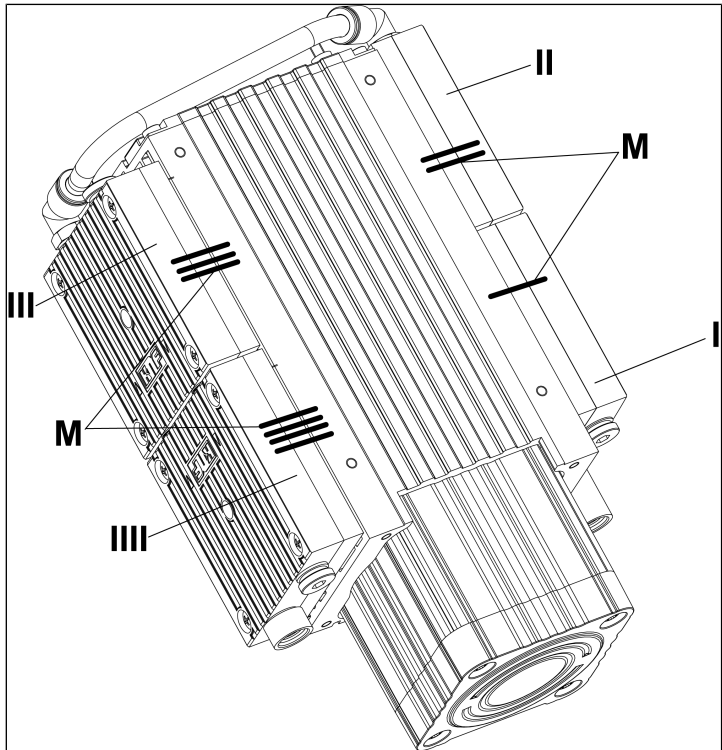
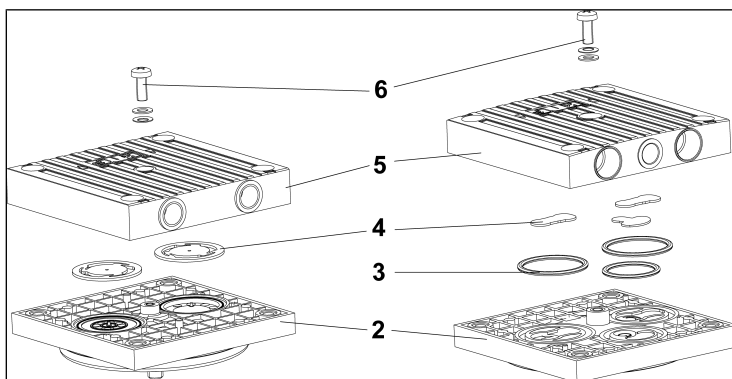

Fig. 6: Marking of the pump
Fig. 9: Exploded view of the pump head
3. Head 1 (I/ Fig. 6):
4. Head 2 (II/ Fig. 6):
5. Head 3 (III/ Fig. 6):
6. Head 4 (IIII/ Fig. 6):
9. On both heads, loosen the head screw (6/ Fig. 9) in the head plate (5/ Fig. 9).
10. Remove the head plate from the intermediate plate (2/ Fig. 9).
1. Remove the valves (4/ Fig. 9) from the intermediate plates (2/ Fig. 9).
Remove the O-rings (3/Fig. 9).
3. Insert the new valves (4/Fig. 9) in the intermediate plates (2/Fig. 9).
Insert the new O-rings (3/Fig. 9) in the intermediate plates (2/Fig. 9).
5. Place the head plates (5/Fig. 9) on the intermediate plates (2/Fig. 9) according to the felt tip pen markings (M/Fig. 6).
6. On both heads, tighten the head screw of the head plate (6/Fig. 9) carefully, lightly and finger-tight (tightening torque: 60 Ncm).
5. Perform steps 6-8 (removing the pump head), as well as steps 1-6 (replacing the valve plates and fitting the intermediate plates) and steps 1-4 (replacing the diaphragms and fitting the pump head) for heads 3 and 4 (III and IIII/ Fig. 6).